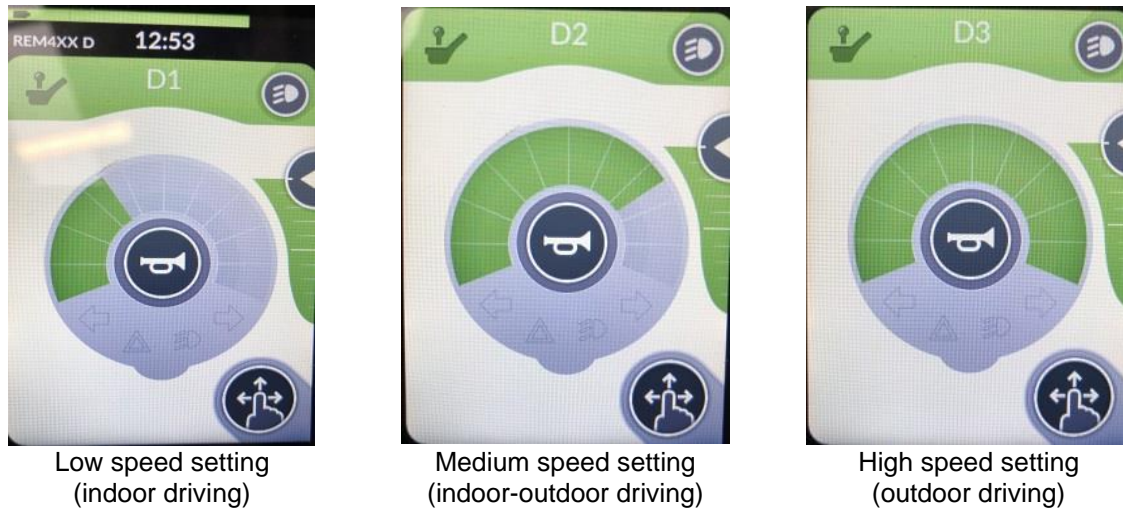

Figure 14 *Submenu D1, D2, D3*
Press the horn key (T) to warn bystanders, see figure 14. The horn will sound as long as the button is pressed.